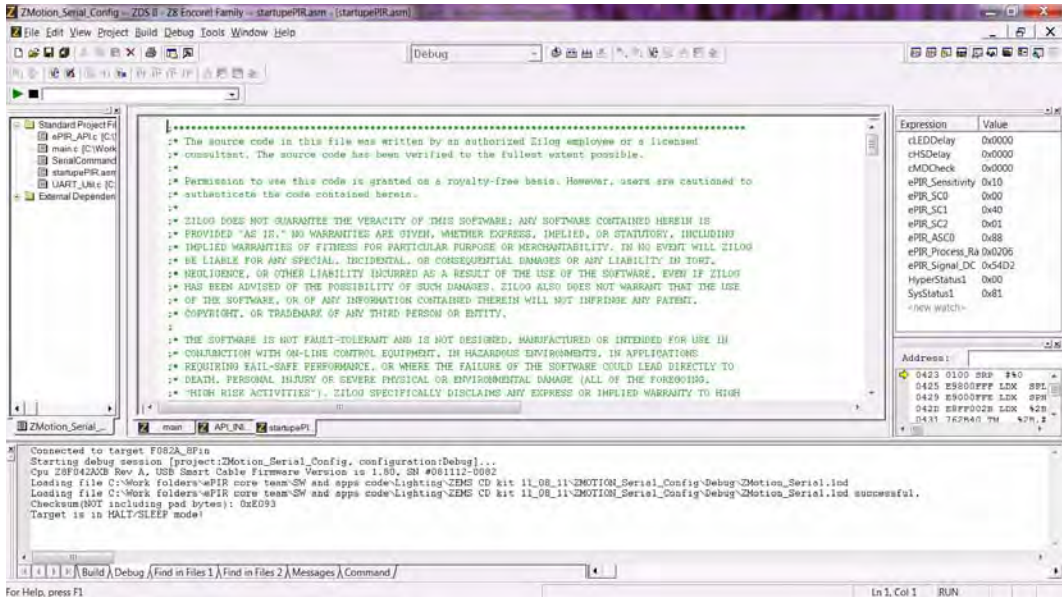

Figure 15. ZDSII's Debug Output Window for the ZMOTION_Basic project
7. An information notice may appear, indicating that the silicon is not the latest version. This occurrence is normal and is not an issue. Click **OK** to continue. You should see a message in the Debug Output Window indicating that the load was successful, as shown in Figure 15.